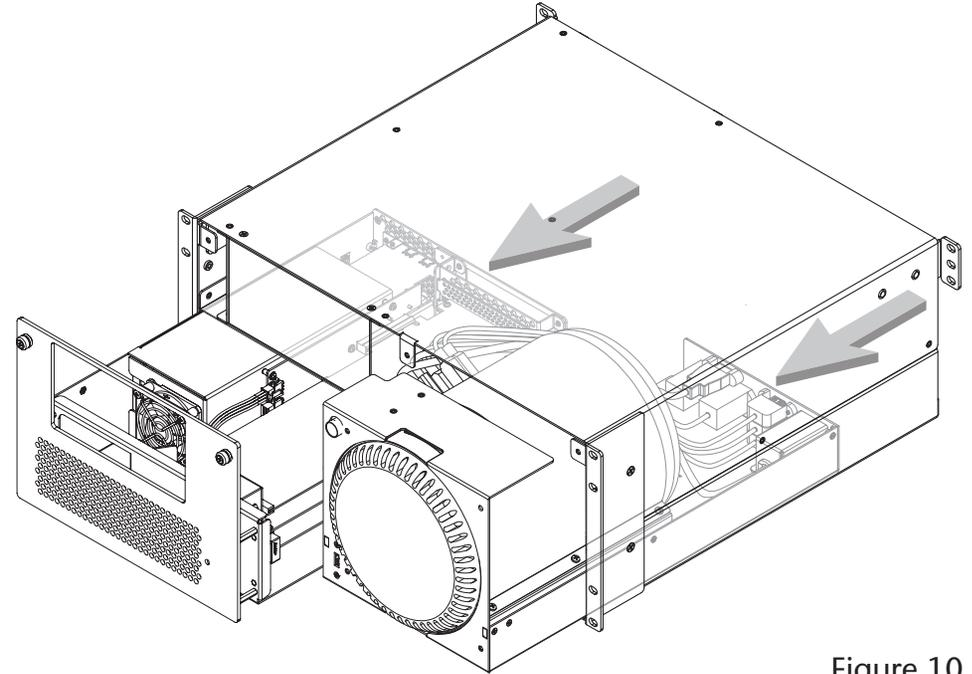

Figure 10
5. Gently pull out the computer mounting and PCIe card expansion modules through the front of the enclosure, and then set them aside (Figure 10).